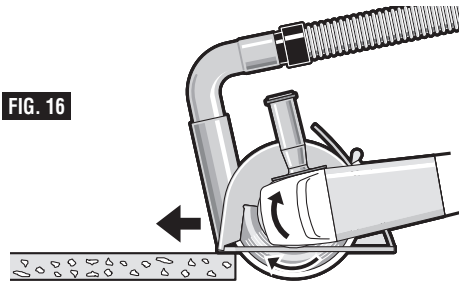

FIG. 16
4. Slide the tool forward at a moderate speed adapted to the material being cut. Always cut towards the dust extraction port to maximize dust extraction and reduce likelihood of kickback (Fig. 16).